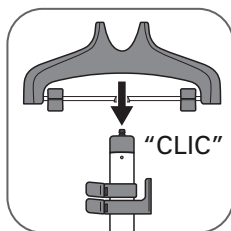

fig. 5
5. Push the hanger on the top of the handle vertically until you hear a click. (fig. 5)